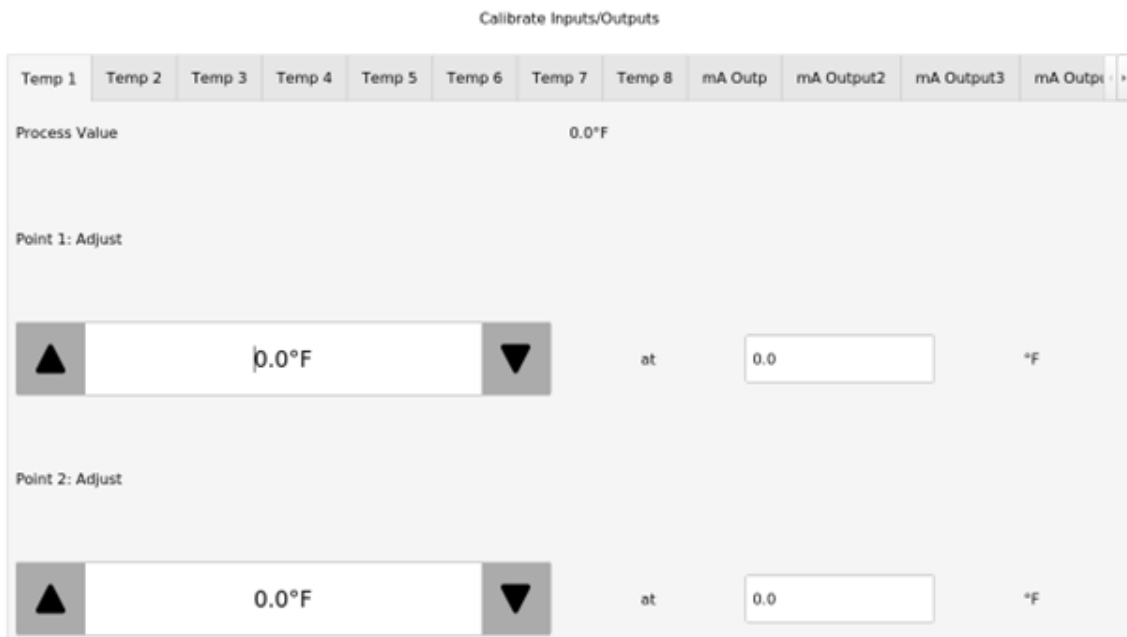

Figure 87: Input Calibration
4. Select the *Input Number* tab of Input you would like to calibrate as seen in Figure 87: Input Calibration below.
5. Choose to perform the calibration in Display Units or Native units. Below the input tabs there is a section of read only information that displays the input configuration details including the Display units, native units and ranges for each, See example in Figure 87 below.